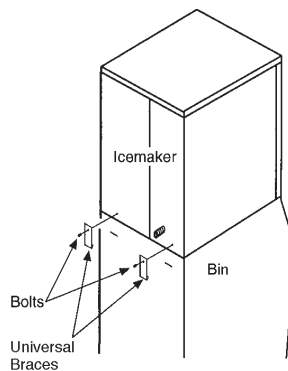

Fig. 2
- 4) Secure the icemaker to the storage bin, by using the two mounting brackets and the bolts provided. See Fig. 2.